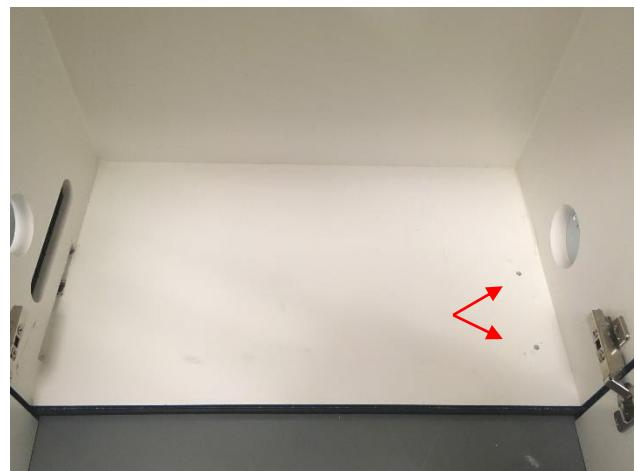

Figure 102 Breadboard anchoring holes
- See Figure 102 for the results of this step.